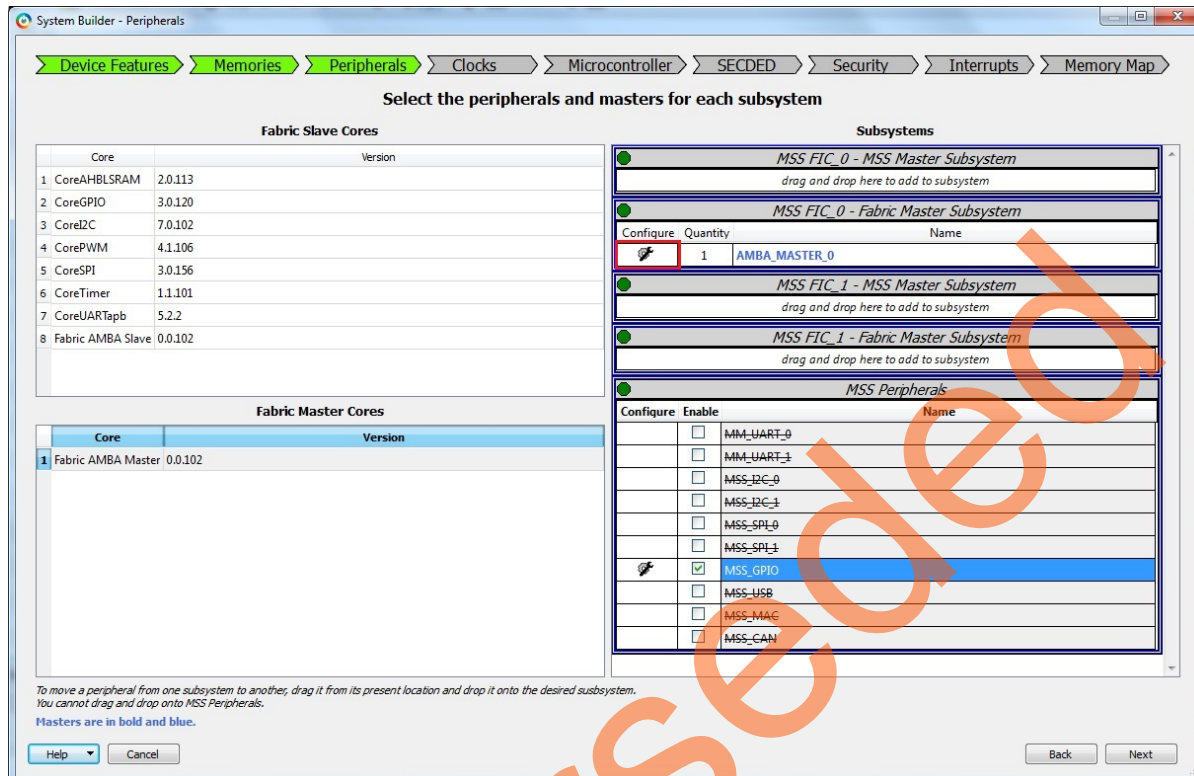
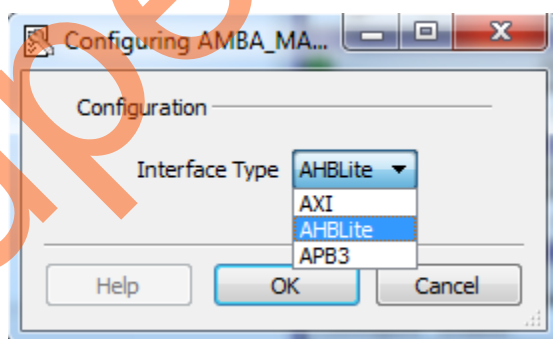

Figure 9 • System Builder Configurator – Peripherals Page
Figure 10 • Configuring AMBA Master
- Disable the MSS Peripherals except MSS_GPIO. The **System Builder – Peripherals** page is displayed as shown in Figure 9 on page 11. Configure **MSS_FIC_0 – Fabric Master Subsystem** for AHB-Lite by clicking on the **AMBA_MASTER_0** configurator button highlighted in Figure 9 on page 11. This displays a drop-down list as shown in Figure 10 on page 11.
12. Select **AHBLite** from the drop-down list as shown in Figure 10.